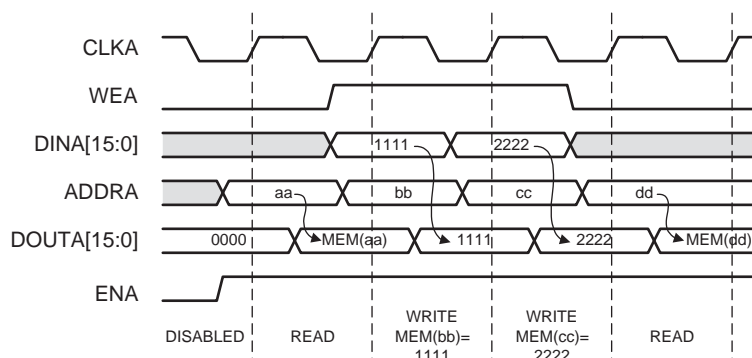

Figure 3-9: Write First Mode Example
- **Write First Mode:** In WRITE_FIRST mode, the input data is simultaneously written into memory and driven on the data output, as shown in Figure 3-9. This transparent mode offers the flexibility of using the data output bus during a Write operation on the same port.